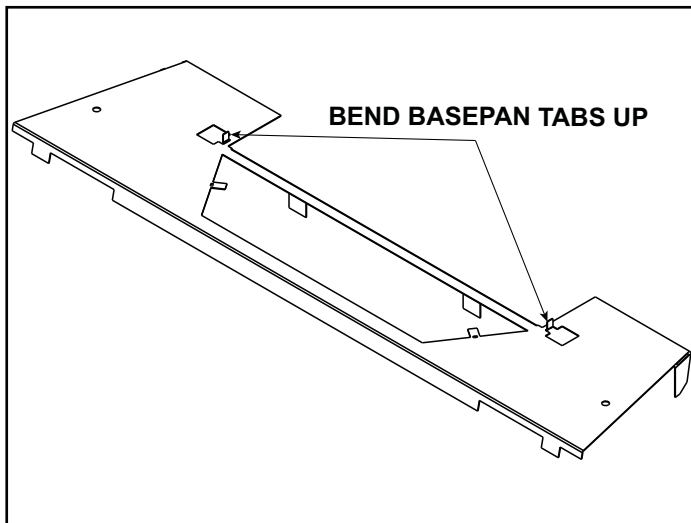
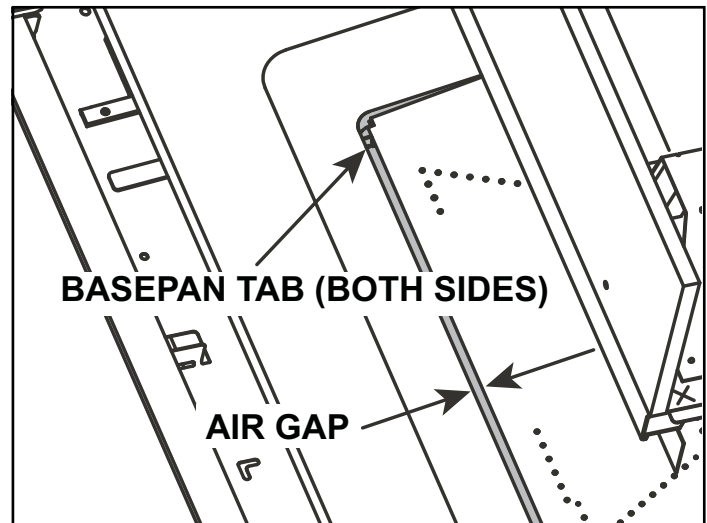

Figure 2 Bend Basepan Tab - CAL36X-SG/WB Only
Figure 3 Basepan Installed - CAL36X-SG/WB Only
**CAL36X-SG, CAL36X-WB MODELS:** Bend the left and right basepan tabs up to 90 degrees as shown in Figure 2. Bending the basepan tabs up creates a necessary air gap between the burner and the base refractory shown in Figure 3.
2. Reference the seven log pins and the location of the log stop shown in Figure 2.